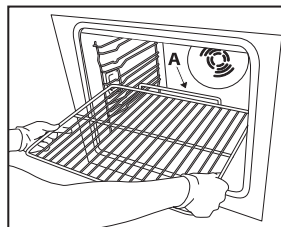

Fig. 1
1. Insert the wire shelf horizontally, with the raised part "A" upwards (fig. 1).